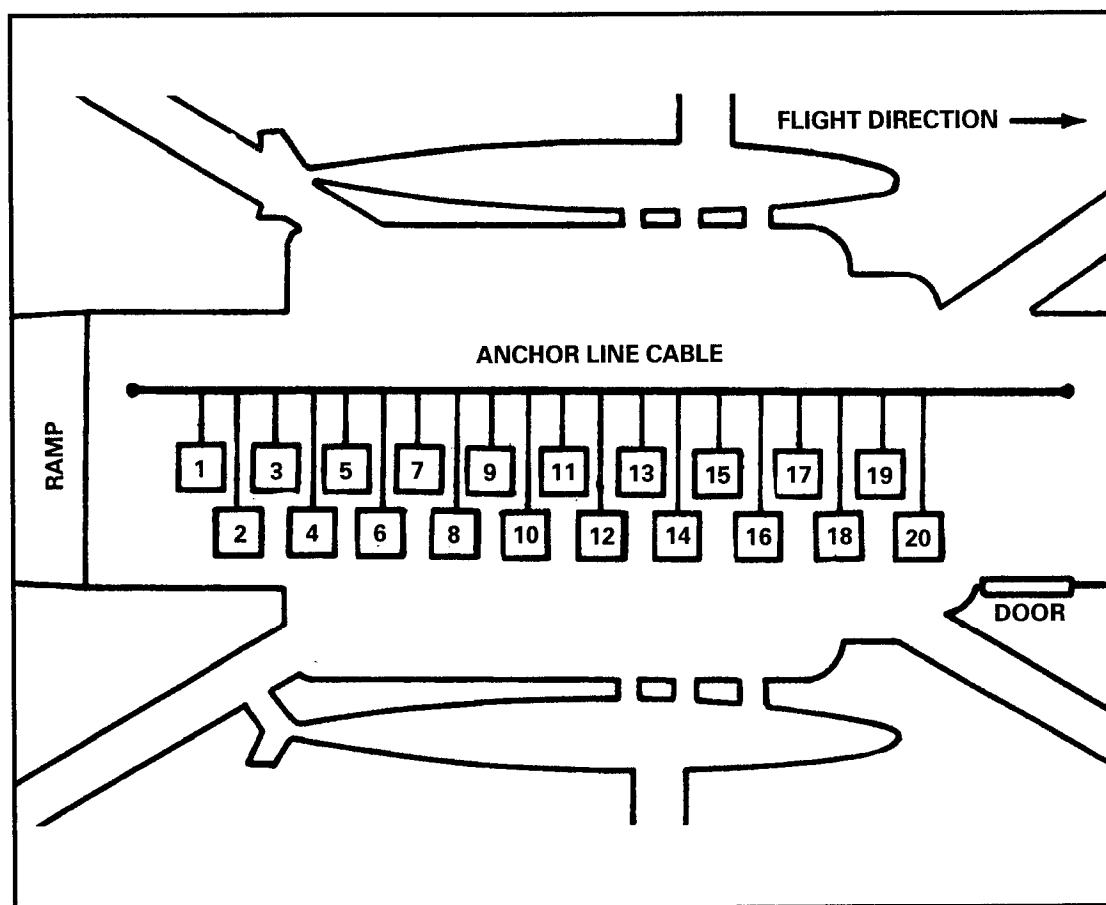

Figure 18-4. CH-53 static line routing.
(3) **PORT SIDE PERSONNEL, HOOK UP.** Odd-numbered parachutists kneel and hook up (with the open portion of the static line snap hook facing inboard) and return to the standing position (Figure 18-4, page 18-4).